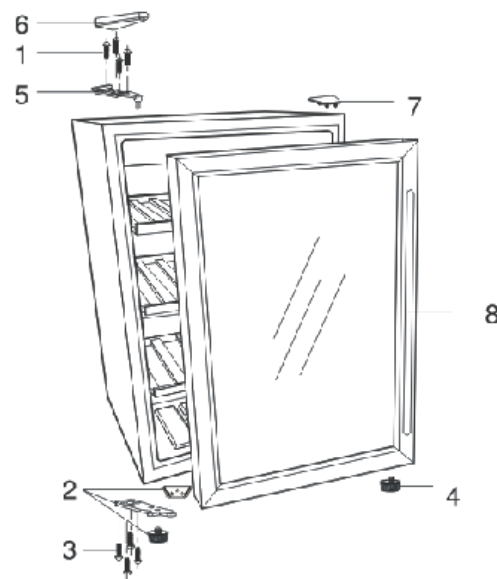

Fig. 2
- Remove the cover plate (Fig. 2: No.7) covering the upper hinge holes.
- Reverse the direction of lower hinge (Fig. 2: No. 2).
- Install the lower hinge, front leg and door stopper (Fig. 2: No. 2) on the lower frame with screws (Fig. 2: No. 3).
- Holding the door in the closed position, secure the upper hinge (Fig. 2: No. 5) to the door and screw into the frame (Fig. 2: No. 1). Note: Do not fully tighten the screws (Fig. 2: No. 1) until the top of the door is level with the top of the unit.
- Install upper hinge cover (Fig. 2: No. 6) over the upper hinge.